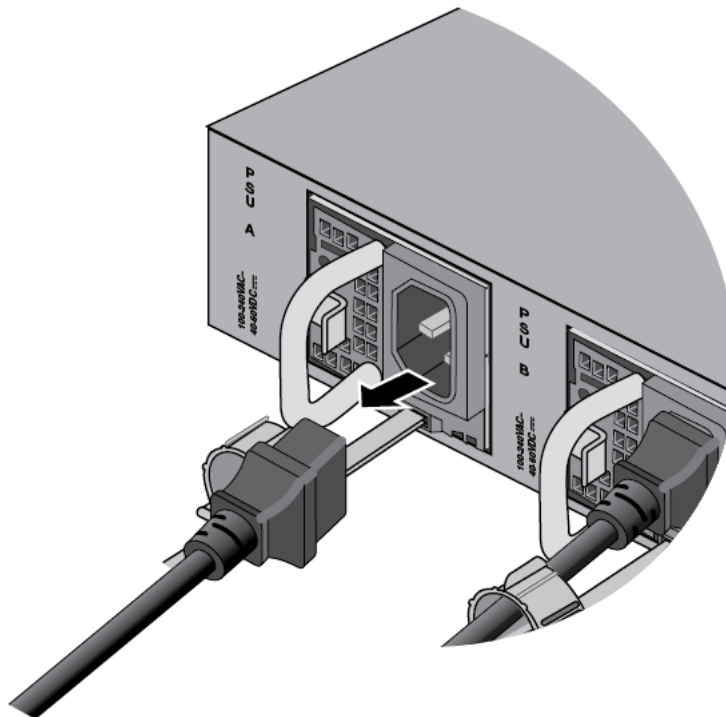

Figure 145. Disconnecting the Power Cord from the Power Supply
3. Disconnect the power cord from the power supply. Refer to Figure 145.